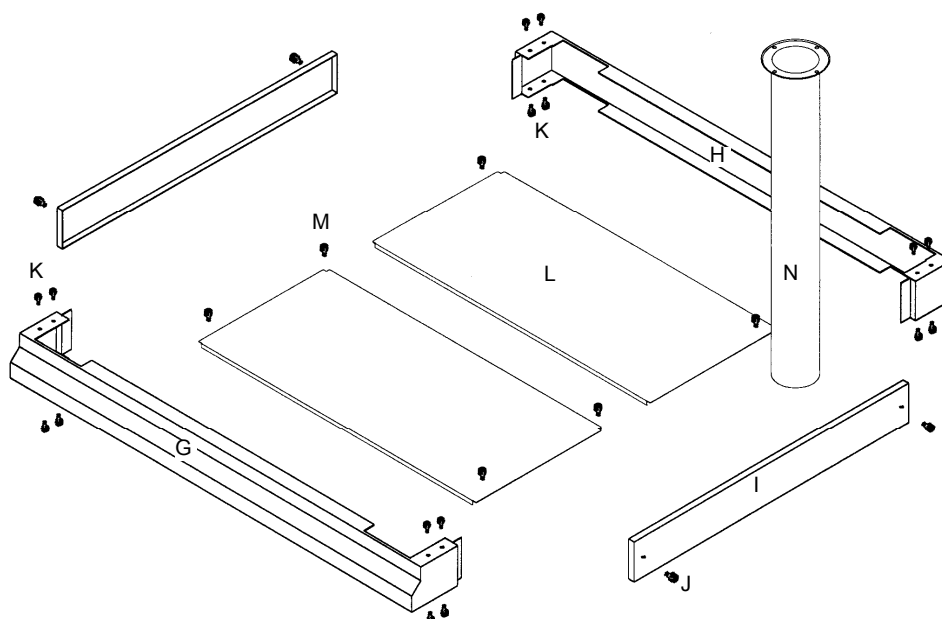

Figure A.6
- 9) Assemble loosely the front (G), back (H) and sides (I), with one screw (J) at each corner (Figure A.6), in from the sides.
- 10) Place stacking assembly on top of the lower oven and loosely attach, using 2 screws (K) in each corner of the unit (at front and back up from the sides).